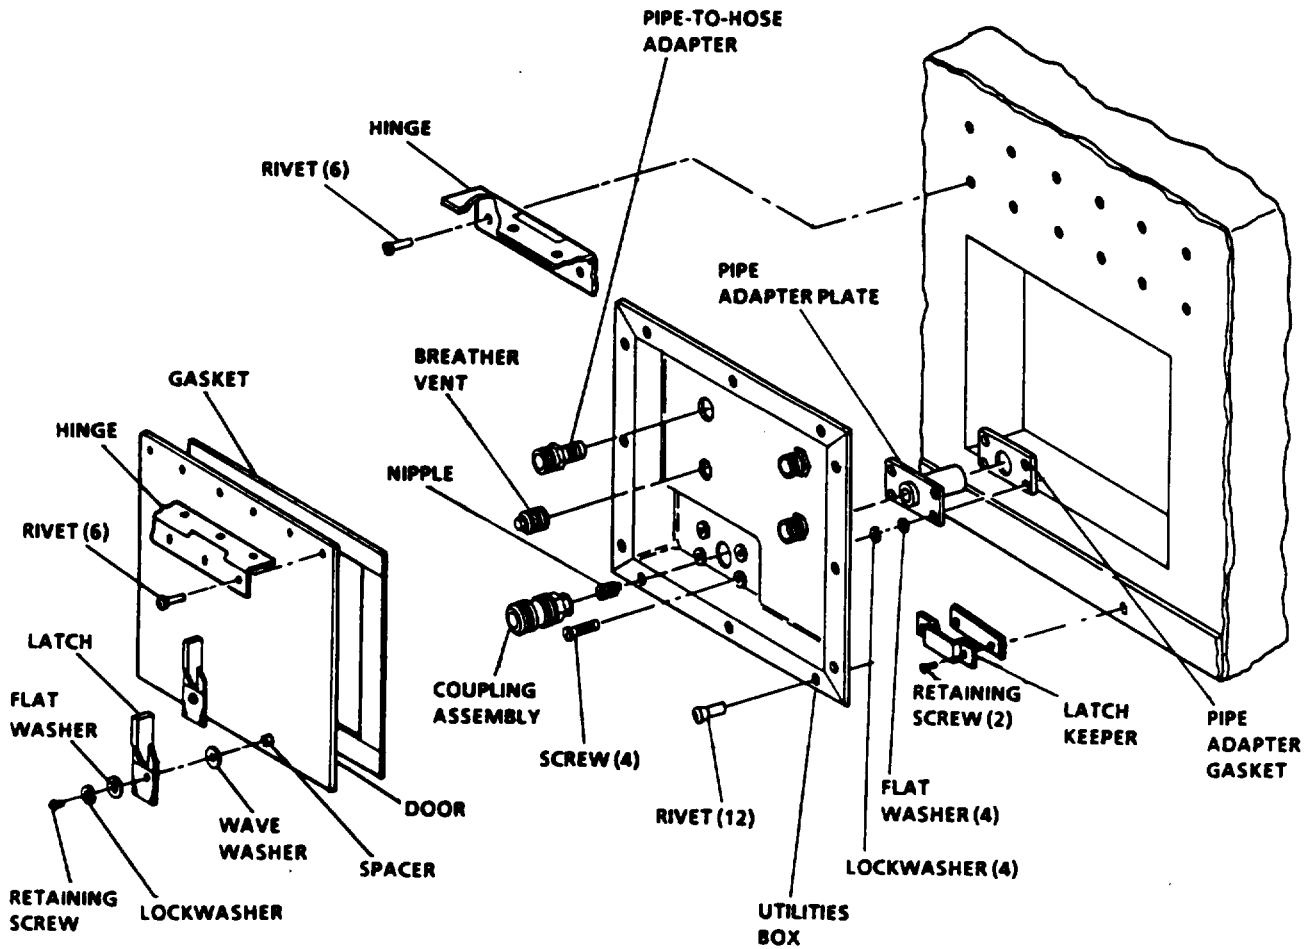

Figure 4-3. Utilities Box and Door
2. Remove latch keepers. See figure 4-3.
3. Remove panel keeper. See figure 4-3.
4. Remove latches from utilities box door. See figure 4-3.
5. Remove weatherstripping from utilities box door. See figure 4-3.
1. Install the utilities box. See figure 4-3.
2. Install the latch keepers. See figure 4-3.
3. Install panel keeper. See figure 4-3.
4. Install latches on utilities box door. See figure 4-3.
5. Install weatherstripping on utilities box door. See figure 4-3
Assemble utilities box. See figure 4-3.